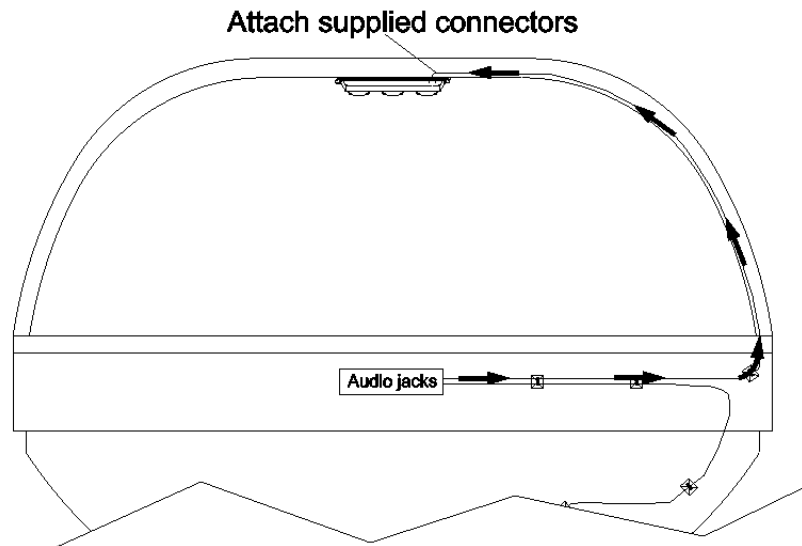

Figure 3:
- 10.11 Run conduit along RH inside edge of fuselage roll bar lip to top center position. Hold in place with adhesive DP-110 in accordance with Figure 3.